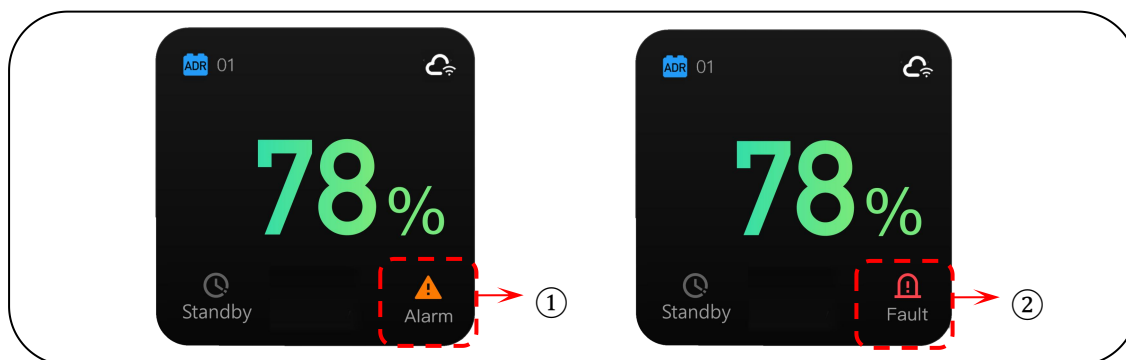

Figure 31 Alarm State Of the Battery System
- If the display indicates a “Alarm”^① or a “Fault”^② as shown in Fig. 31, you need to remove the fault and then power on.